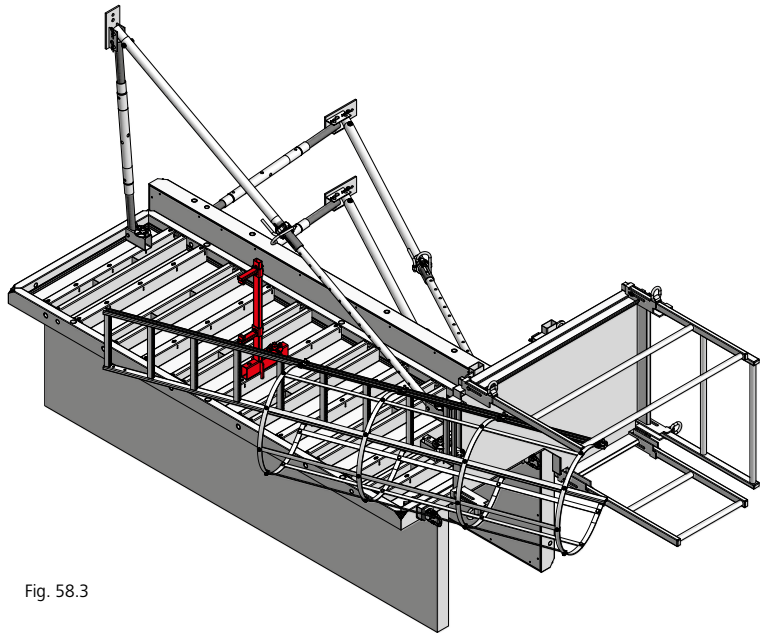

Fig. 58.3
5. Screw the clamping angle firmly to the ladder fixture (Figures 58.3 and 58.5).